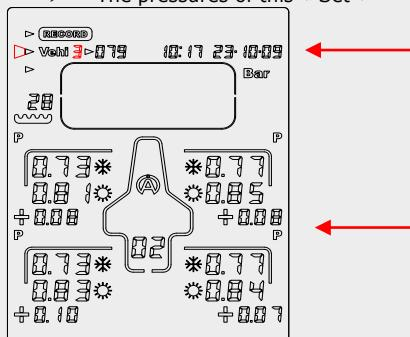

Figure 2
2) With the button or select the icon « **Vehi** » (figure 2)
3) With the button or select the vehicle wanted (5 to the total) (figure 2)